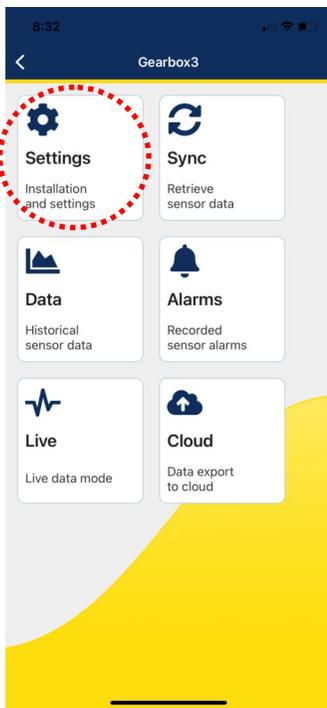

Figure 1
2. Select **Settings** (see figure 1).